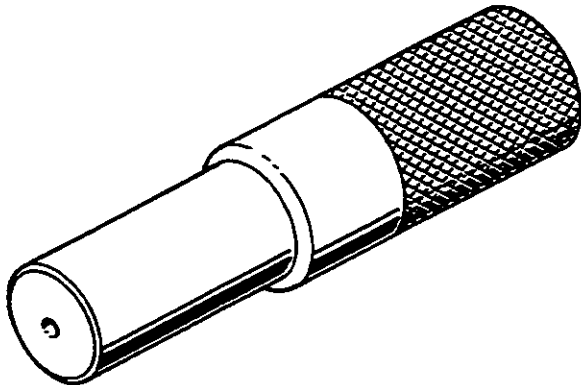

Fig. 22
- Centring tool, ref. 3376887M1 (Fig. 22)